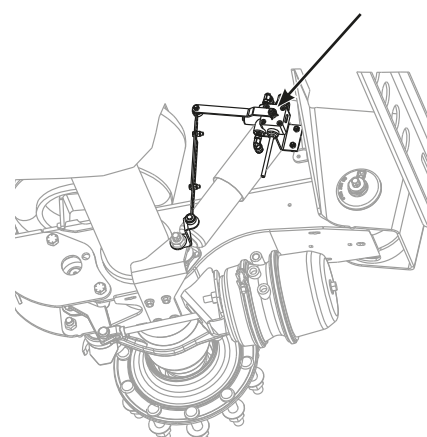

Figure 12: Lower Shock Bracket
- Fixed to the lower shock absorber bracket (Refer to Figure 12)